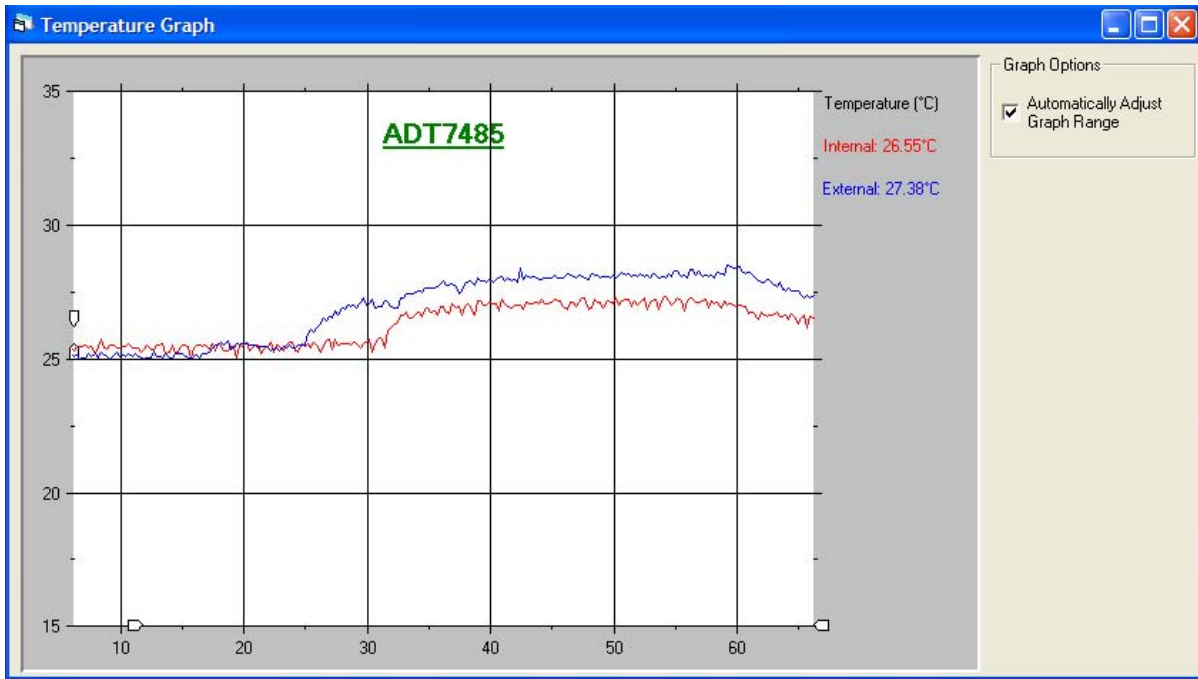
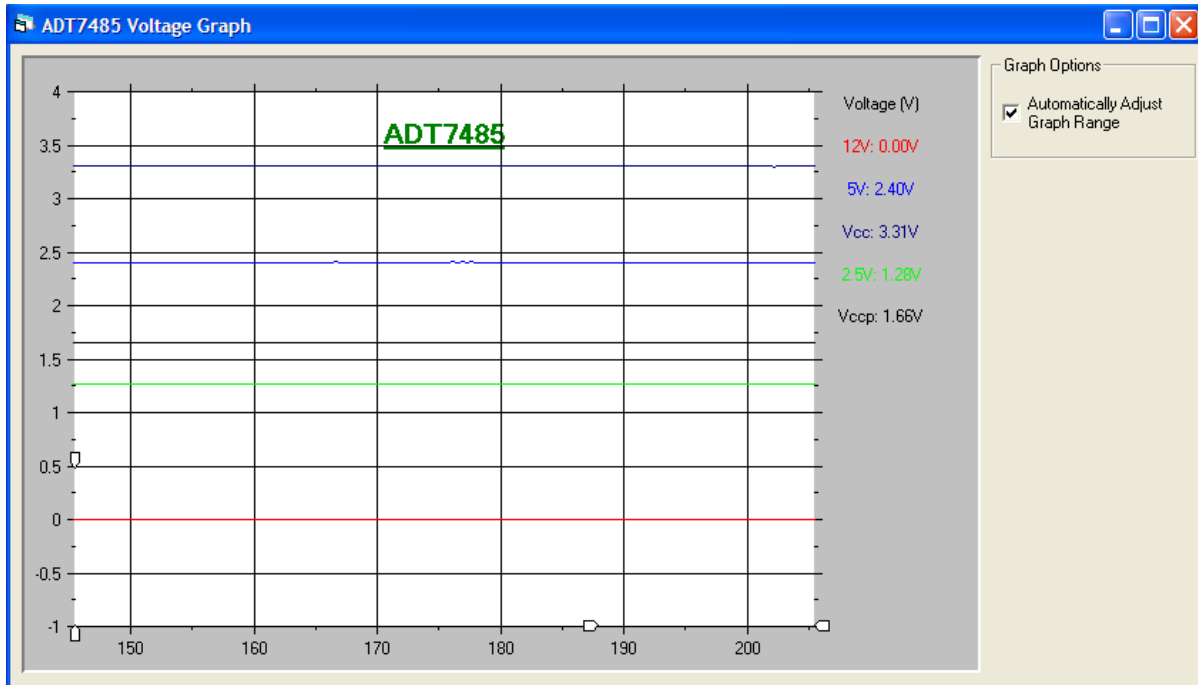

Figure 3. ADT7485 Temperature Graph
Figure 4. ADT7485 Voltage Graph
- The temperature graphing window (Figure 3) displays the temperature of the on-board sensor and the temperature of the remote sensing diode. The voltage monitoring graph (Figure 4) displays five different voltage readings – 12V, 5V, Vcc, 2.5V and Vccp.